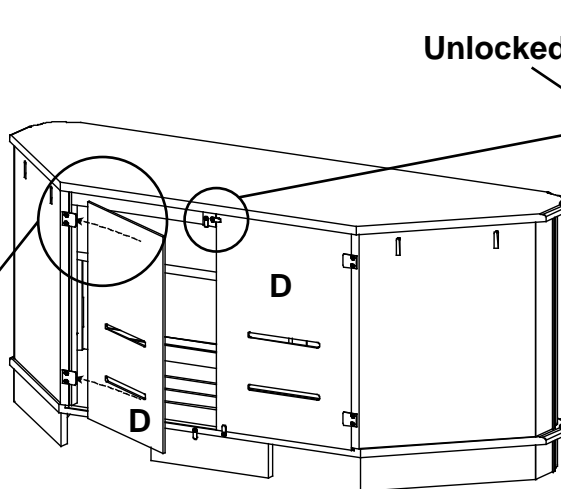
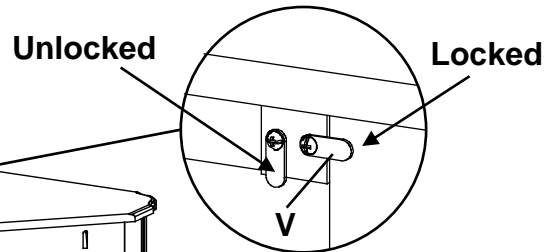

Fig. 3
Fig. 3b
3. To place your media components and access wires more easily, you may want to detach the Removable Backs (D). To do so, unlock the Turn Buttons (V) as shown in Figures 3 and 3a. Slide the Backs away and place them off to the side. To put them back into place, slide the Backs behind the Drawer Stops (S) and position the Turn Button so that it is locked. See Figure 3b.